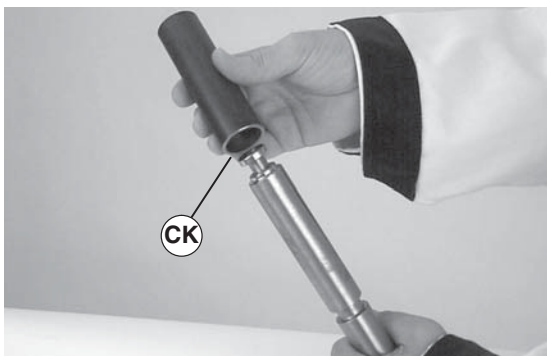

Figure 45
- Slide the sleeve of tool (part # 450282) (Figure 45, item CK) over bearing.